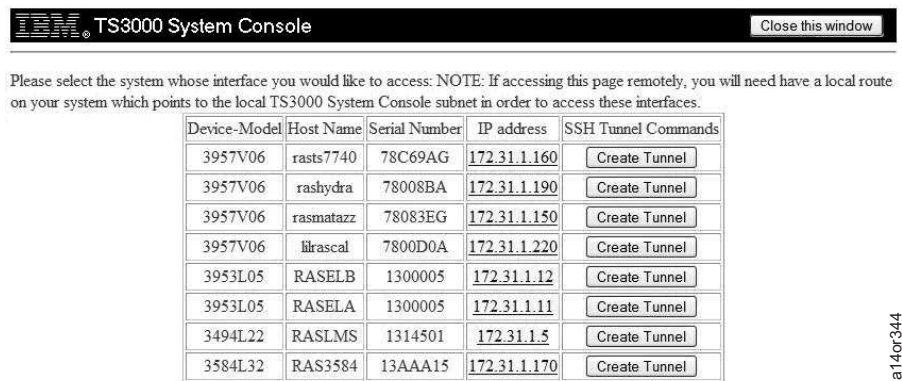

Figure 250. System Selection Screen
4. Select **System Interfaces**. You see the screen shown in Figure 250.